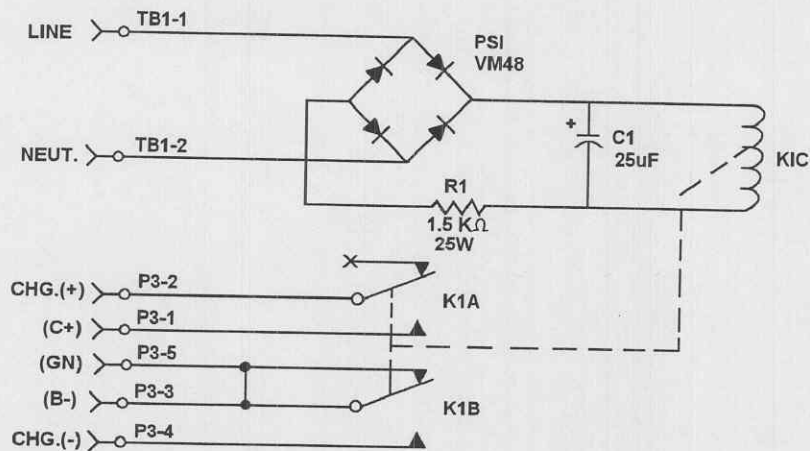
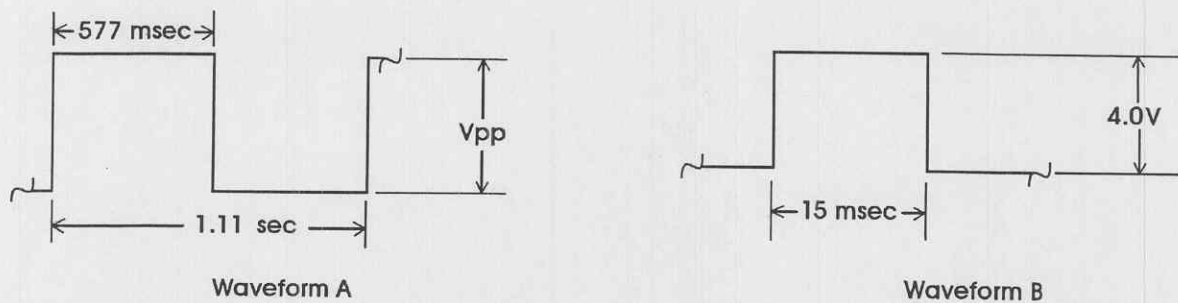
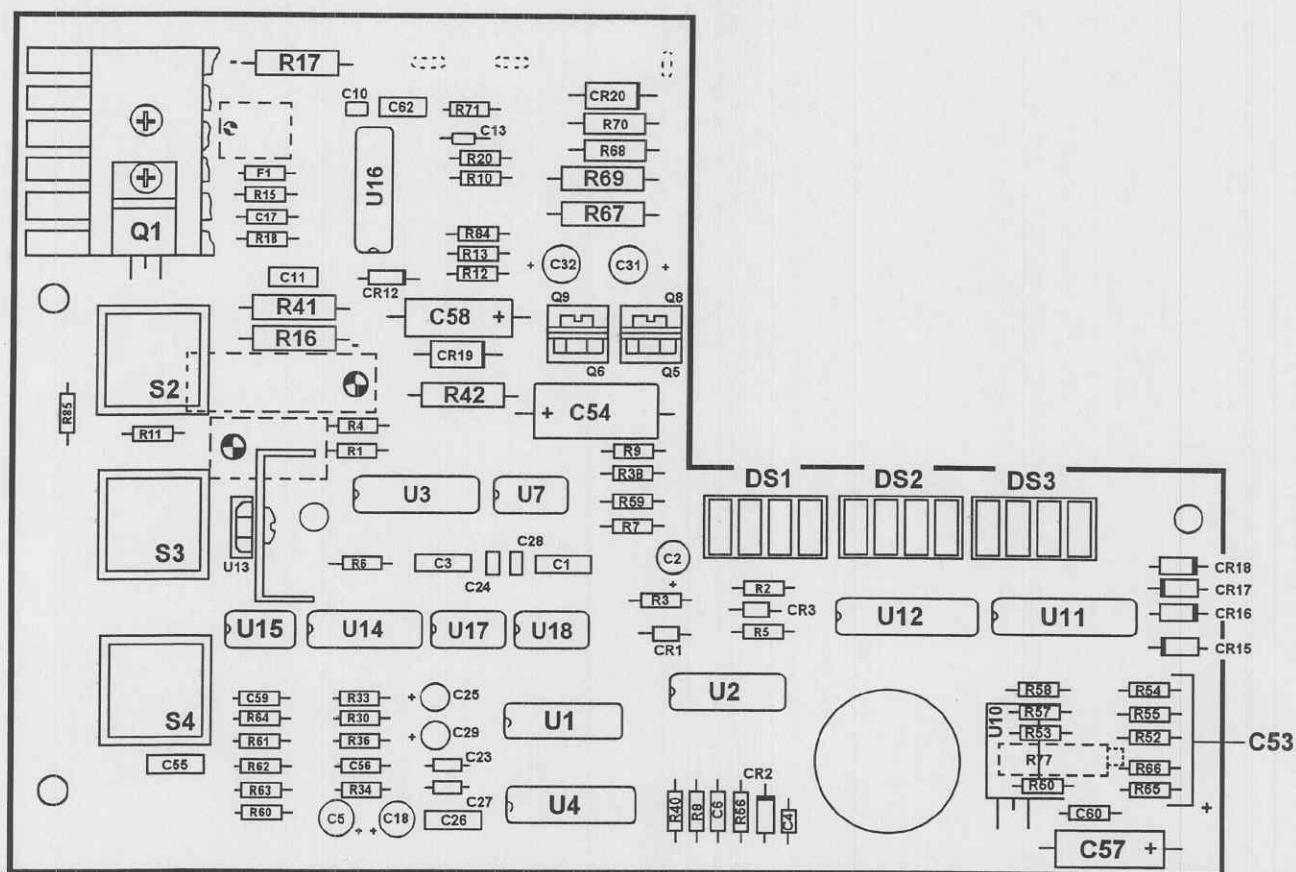

Figure 3-4. AC power supply PCB.
Figure 3-11. Test points.
Figure 3-12. Component layout - control PCB.
3-26. AC power supply PCB (fig 3-4).
a. Test voltages and waveforms for specific operating modes are provided in figure 3-11 and table 3-9.
- (1) TP1 is ground
- (2) All voltages are VDC unless otherwise specified.
- (3) See figures 3-4 thru 3-10 for corresponding schematics.
- (4) All voltages are typical and tolerance is +/- 0.1 volts.
- (5) When handpiece is operating in the forward direction only.
- (6) When handpiece is operating in the reverse direction only.
- (7) When handpiece is operating in any mode except forward.
- (8) When handpiece is operating in any mode except reverse.
c. A component diagram is provided in figure 3-12 to assist in locating the test points.